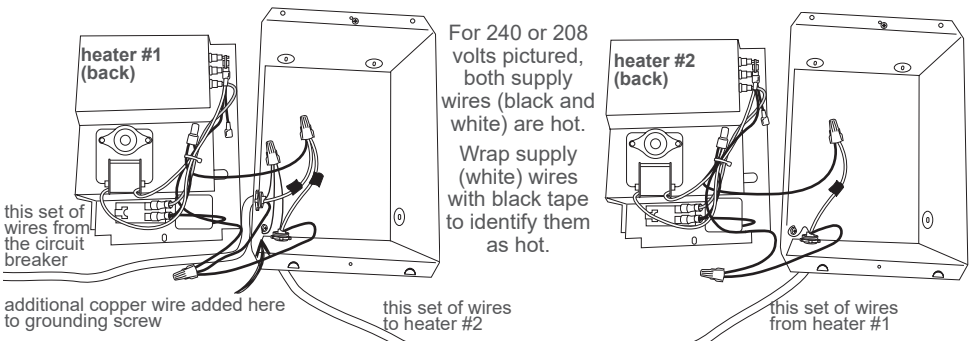

Figure 10
1. Route the electrical supply wire from the circuit breaker to heater #1. Remove two knockouts and attach two sets of electrical supply wire with two cable clamp connectors (not included) leaving a minimum of 6 inches wire lead—one set from the circuit breaker, the other set to heater #2 (See Figure 10).
2. The two supply ground wires in the wall can of heater #1 need to make a 3-wire connection with the grounding screw. Attach a short copper ground wire to the grounding screw in the wall can. Connect this wire and the two supply ground wires with a wire connector (not included) (See Figure 10).